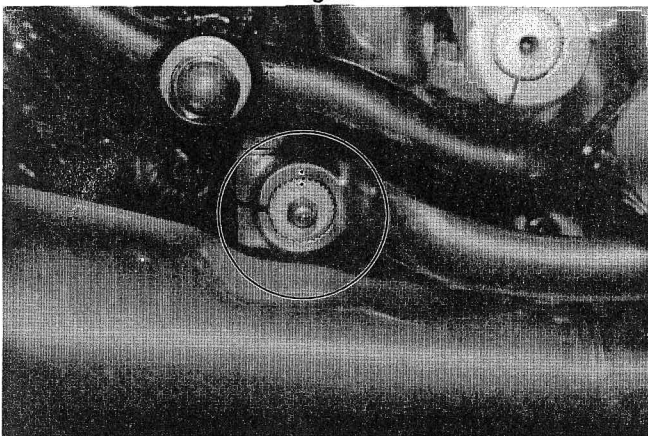

Fig. 38
31. Install the brake pedal (d) so that the punch mark on the brake pedal aligns with the punch mark on the brake shaft, and install the spring washer (g-15) and bolt (g-14). (Fig. 38)